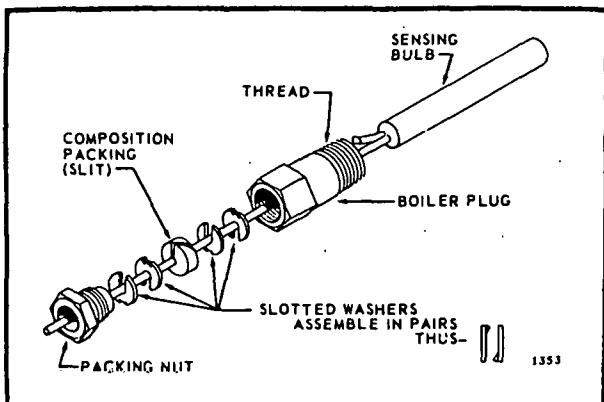

FIG. 7-PRESSURE FITTING ASSEMBLY.
4. Place composition disc and the four slotted brass washers on tubing in the order shown in Fig. 7.